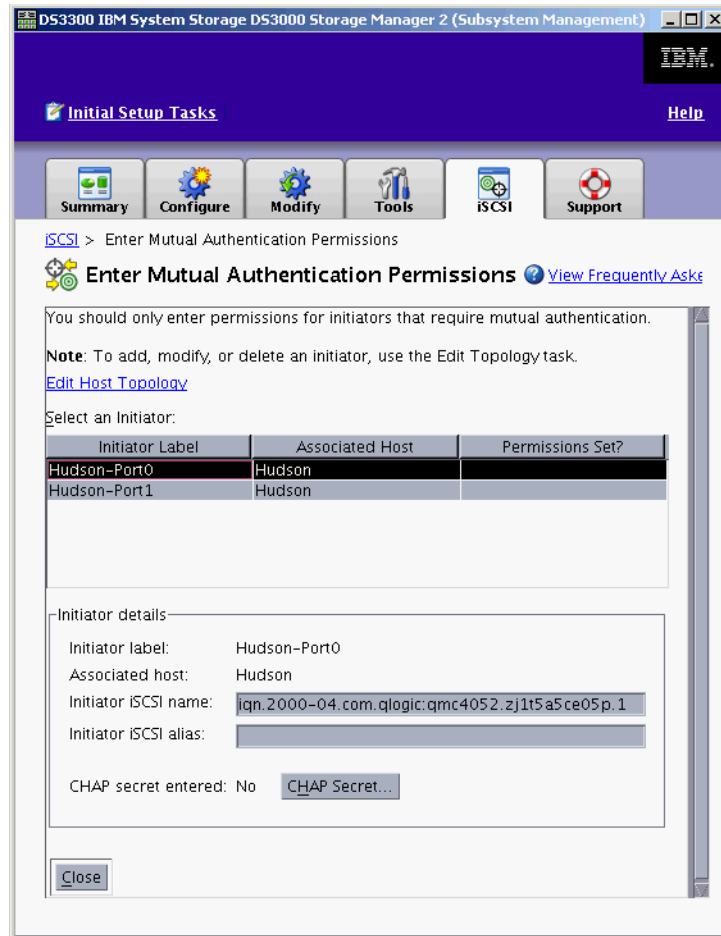

Figure 13-4 Storage Manager - Enter Mutual Authentication Permissions
2. Select a host port that has already been defined, as described in 9.2, “Configure hosts” on page 140. In these iSCSI menus, the host ports are referred to as Initiator Labels. Figure 13-4 shows a selected host port, Hudson-Port0. There is no CHAP secret defined for this initiator, as shown in the last column, Permission Set?. Click **CHAP Secret....**